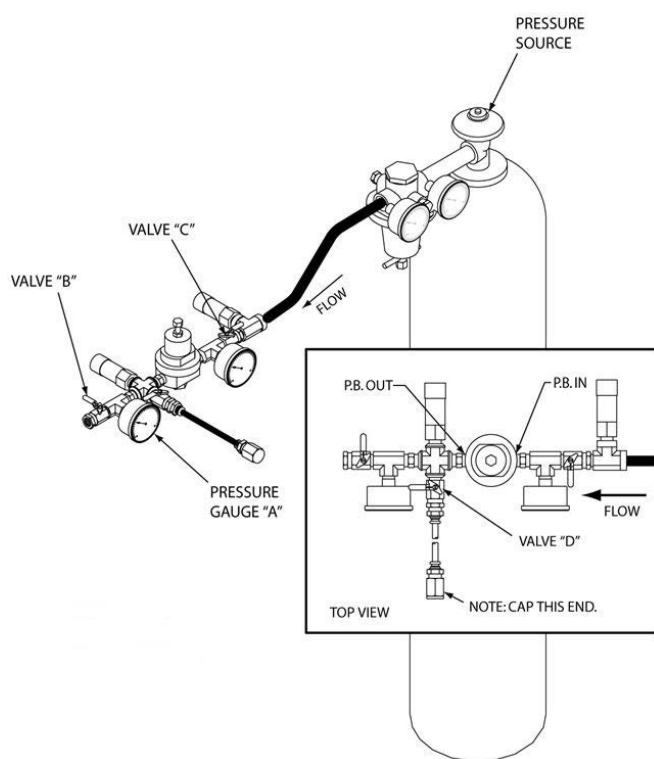

Figure 21
1. Connect the pressure building regulator to a nitrogen pressure source as shown in Figure 21.